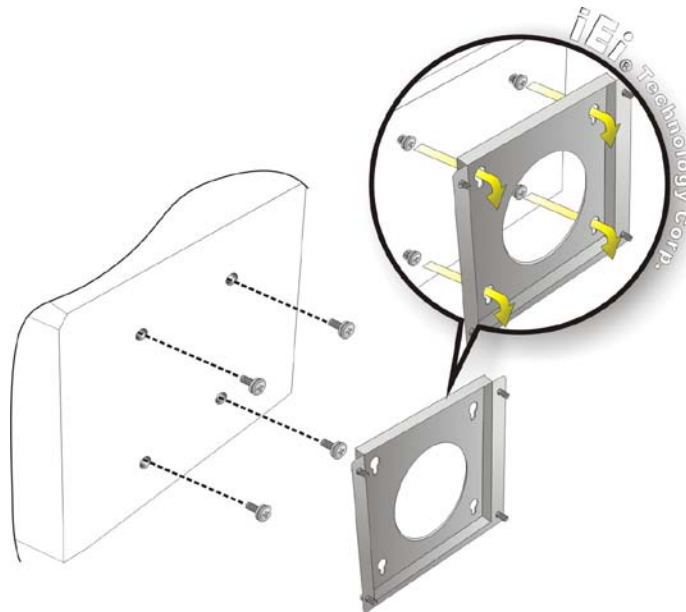

Figure 4-20: Mount the Chassis
Step 11: Insert the four monitor mounting screws provided in the wall mounting kit into the four screw holes on the rear panel of the monitor and tighten until the screw shank is secured against the rear panel (**Figure 4-20**).
Step 13: Carefully insert the screws through the holes and gently pull the monitor downwards until the monitor rests securely in the slotted holes (**Figure 4-20**). Ensure that all four of the mounting screws fit snugly into their respective slotted holes.